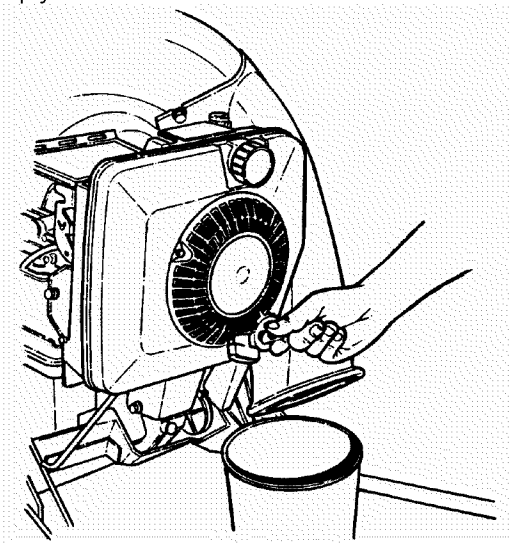

FIGURE 3.1
2. For simplest/cleanest oil change, loosen lower handle nuts. Stand mower up on lower handle brackets as shown in Figure 3.1. Drain oil through dipstick tube into a container. Allow sufficient time for all oil to drain. NOTE: On self-propelled models, wheel drive rod prohibits handles from being folded. Simply turn mower on its side to drain oil.